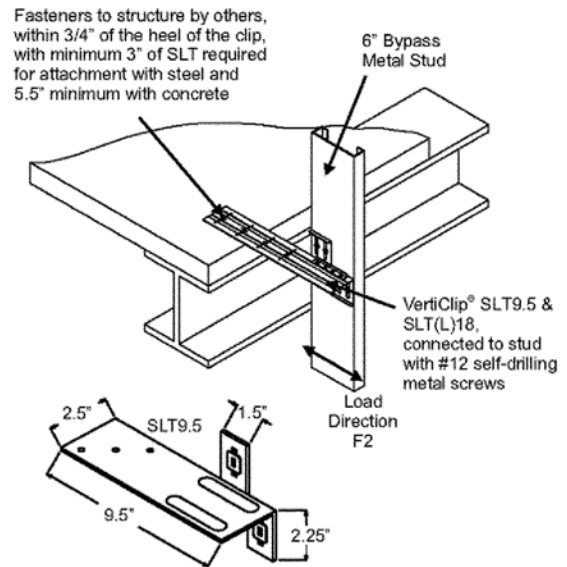

FIGURE 4 - VERTICLIP SLT-9.5 AND SLT(L)18
3.1.5 VertiClip® SLT: VertiClip SLT–9.5 and SLT(L)–18 are formed steel plates having one upward and one downward vertical leg at the end of the connectors that attach to the curtain wall framing members. The minimum base-metal thickness of the plates is 0.0966 inch (2.5 mm). Each leg of the SLT–9.5 is 1½ inches (38 mm) wide by 2¼ inches (57 mm) high, and has one vertical slot measuring 5/16 inch (8 mm) wide by 1⅜ inches (35 mm) long, allowing for a maximum 1-inch (25.4 mm) vertical movement of the framing members. Each leg of the SLT(L)–18 is 2⅜ inches (71 mm) wide by 3⅞ inches (79 mm) high, and has two vertical slots measuring ¾ inch (9.5 mm) wide by 2¼ inches (57 mm) long, allowing for a maximum of 1⅞ inches (47.6 mm) of vertical movement between exterior wall elements and the primary structure. The bend in the steel plate at the vertical legs of the SLT(L)–18 is reinforced with two ¾-inch-by-5/8-inch (9.5 mm by 15.9 mm) L-shaped steel angles that are factory-attached with four 3/16-inch-diameter (4.8 mm) rivets. The angle reinforcement is 4⅜ inches (111 mm) long and has a minimum base-metal thickness of 0.0677 inch (1.7 mm). Refer to Figure 4 for overall dimensions of the Verticlip SLT–9.5 and SLT(L)–18 connectors and a typical installation detail.